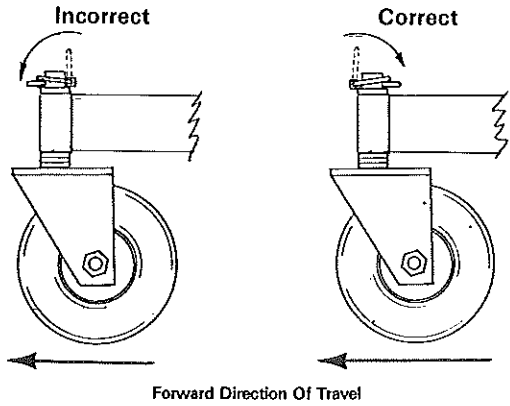

Figure 6
**IMPORTANT:** With the caster wheels turned to the position they are in when traveling forward, install the click pins from front to rear as shown in Figure 6. If they are installed from rear to front, a branch from a tree or shrub could catch the ring of the click pin and pull it out of the spindle allowing the caster wheel to drop out of the caster bracket.